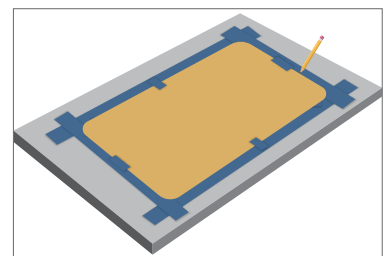

Fig. 4
- Tape the template to the area to secure in place while you carefully trace around the template with a marker. (see Fig. 4)